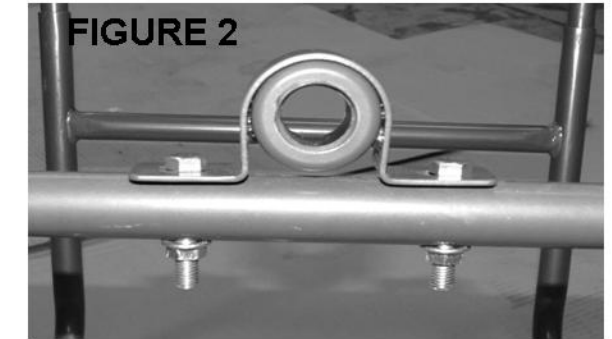

FIGURE 2
2. Turn frame over and attach one U-bushing (P) to frame (A) using two U-bushing bolts (L) and nuts (M). Hand tighten only. See Figure 2. Set Frame aside.